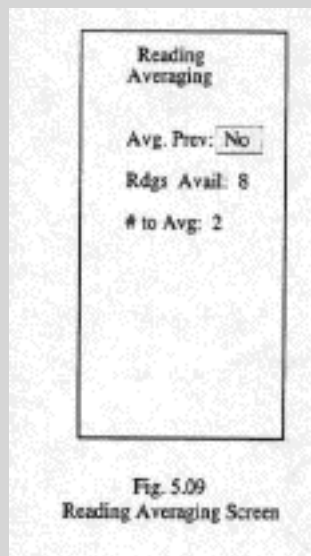

Fig. 5.09
6. Your NITON Analyzer can average up to 100 readings at a time. To set up the **Averaging Screen**, hold down the **Clear/Enter** button to toggle through the testing and data entry screens to the **Reading Averaging** screen (**Figure 5.09**). If you select **Yes** to average readings, you will be prompted to select the number of readings you wish to average. To take additional readings, simply repeat steps 3 through 5. Your NITON will display both the average of the current and previous readings and the number of readings being averaged.